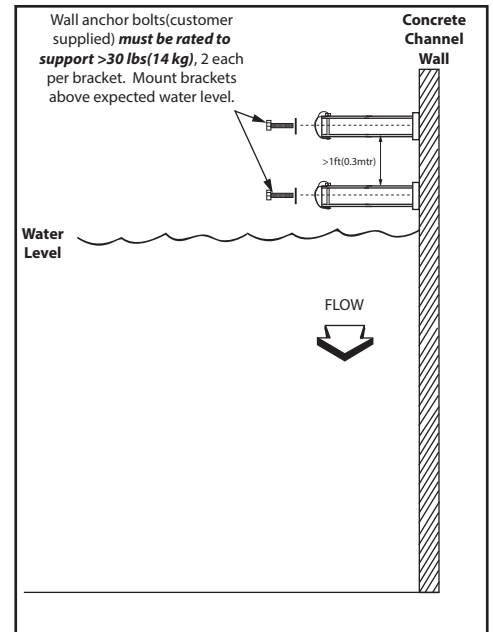

FIG. 28
- G) Attach wall mounting brackets to concrete wall in channel using customer supplied concrete anchor bolts. Note that assembly weighs 33lbs(15kg). Holes in wall mounting bracket are 0.65" (16mm) OD. See FIG 28.